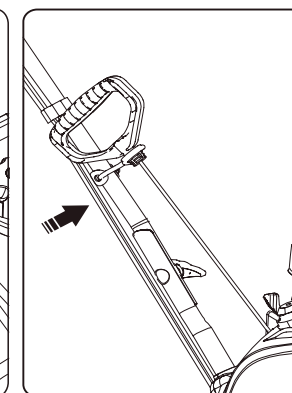

Fig 4
4. Place the recoil start handle into the ring. (Fig 4)